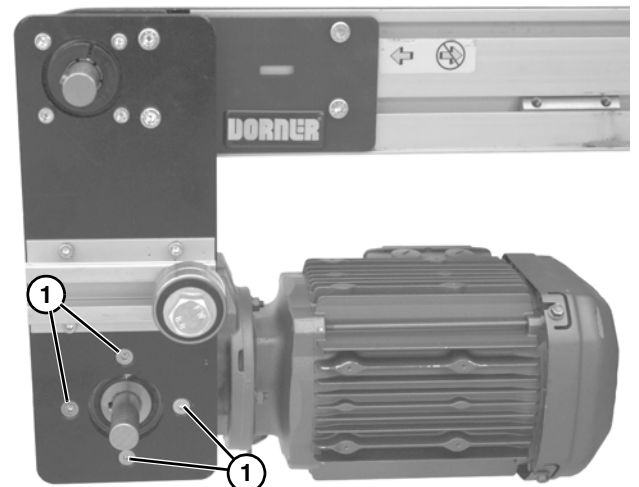

Figure 4
2. If required, change gearmotor position by removing four (4) screws (**Figure 4, item 1**). Rotate gearmotor to other position and replace screws (**Figure 4, item 1**). Tighten to 110 in-lb (12 Nm).